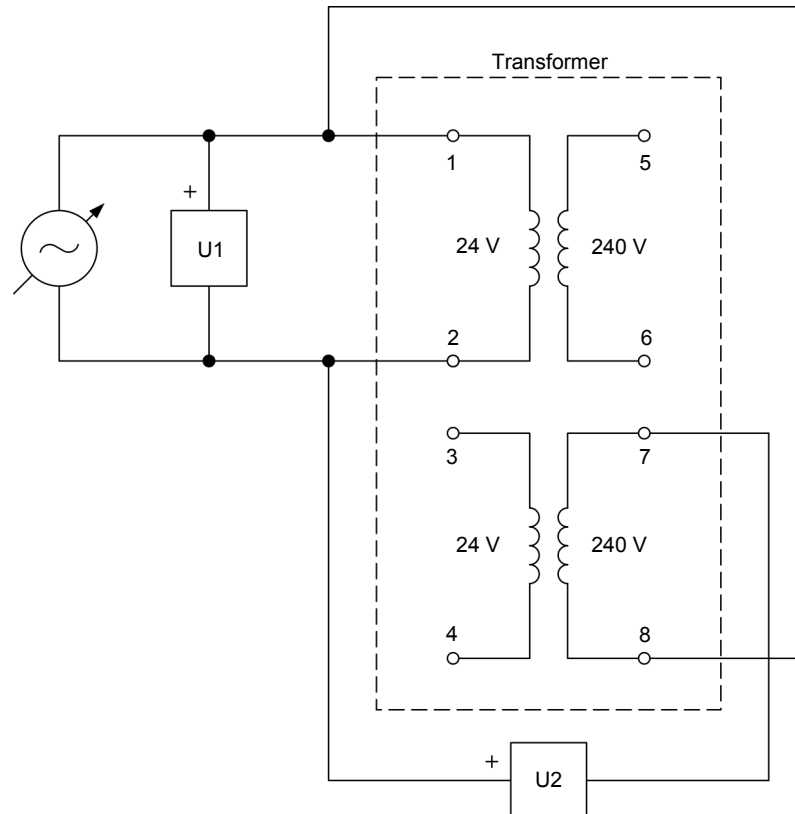

Figure 18. Circuit for determining transformer winding polarity using a voltmeter.
18. Connect the equipment as shown in Figure 18. In this circuit, the other secondary winding (winding 7-8) of the transformer is connected in series with the primary winding (winding 1-2).